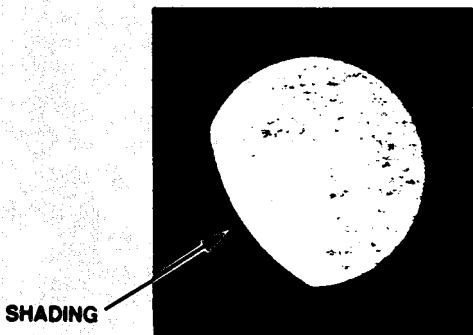

Figure 2-9. Shading.
(1) SHADING. This is a defect in the image area of the lens. When shading occurs you will see a faded image. Shading always begins on the edge and moves inward (fig. 2-9).